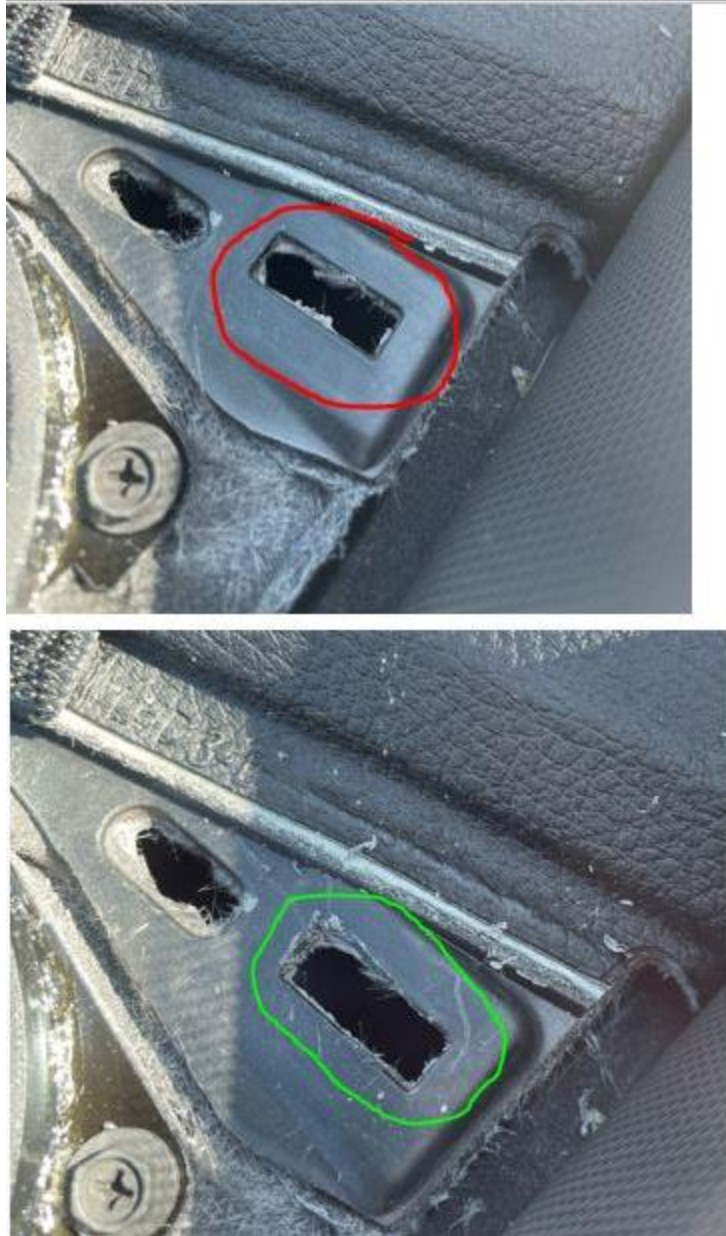

Fig 3.
- 4.) Inspect the clip slots near the suspect location for any excessive flash or glass material. See Fig 3 below.